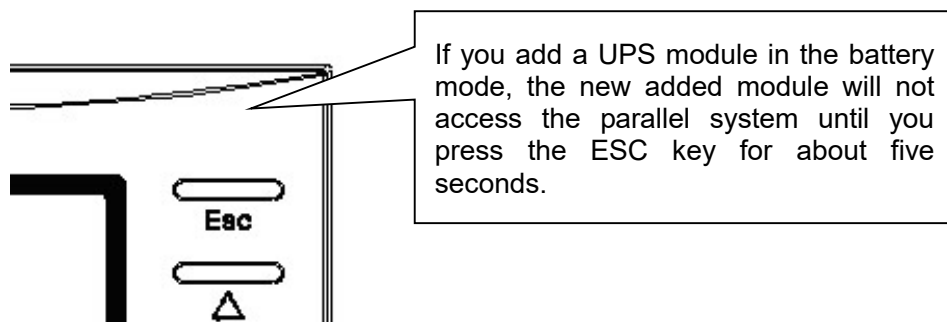

Fig. 1-3
4. If you add a UPS module in the utility power mode, the new added module will enter the parallel system automatically. If you add a UPS module in the battery mode, the new added module will not build a power supply and enter the parallel system until you have completed the above three steps and press the ESC key on the LCD panel for about five seconds (Fig. 1-3).